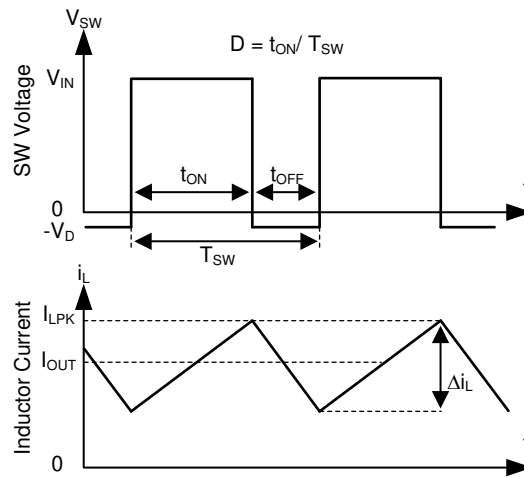

图 29. SW Node and Inductor Current Waveforms in Continuous Conduction Mode (CCM)
The following operating description of the TPS2584x-Q1 will refer to the Functional Block Diagram and the waveforms in Figure 29. TPS2584x-Q1 is a step-down synchronous buck regulator with integrated high-side (HS) and low-side (LS) switches (synchronous rectifier). The TPS2584x-Q1 supplies a regulated output voltage by turning on the HS and LS NMOS switches with controlled duty cycle. During high-side switch ON time, the SW pin voltage swings up to approximately V_{IN} , and the inductor current i_L increase with linear slope $(V_{IN} - V_{OUT}) / L$. When the HS switch is turned off by the control logic, the LS switch is turned on after an anti-shoot-through dead time. Inductor current discharges through the LS switch with a slope of $-V_{OUT} / L$. The control parameter of a buck converter is defined as Duty Cycle $D = t_{ON} / T_{SW}$, where t_{ON} is the high-side switch ON time and T_{SW} is the switching period. The regulator control loop maintains a constant output voltage by adjusting the duty cycle D . In an ideal buck converter, where losses are ignored, D is proportional to the output voltage and inversely proportional to the input voltage: $D = V_{OUT} / V_{IN}$.